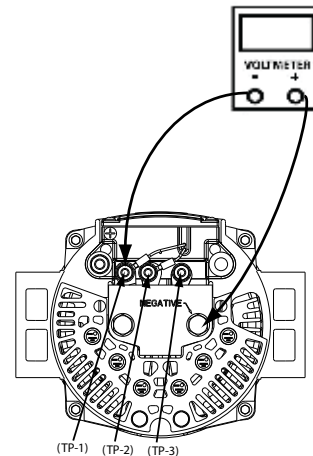

Fig 1
Step 2: Connect positive test lead (+) to alternator negative post and negative test lead (-) to alternator AC post (TP-1). Move the negative test lead (-) to (TP 2) and (TP 3). Record readings at all three TP locations. See Fig 1.